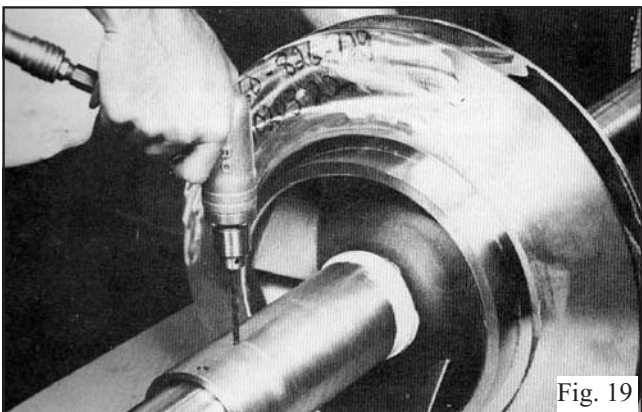

Fig. 19
NOTE: For impellers with replaceable rings, heat each new ring (4-004-0) and slide it onto the impeller. Hold rings against the impeller shoulder until they cool. (See Fig. 19)
6. Place the sleeve O-ring (3-914-9) onto the shaft, into the sleeve counterbore. Verify that Dimension “A” (Fig. 16) is maintained, then using a pin spanner wrench and hammer, securely tighten the shaft sleeve nuts (3-015-9). Then, drill a shallow recess in the shaft through the set screw hole in each of the shaft sleeve nuts. Lock each shaft sleeve nut in position with cup point set screws (3-902-9). (See Fig. 19) A low strength sealant, such as Loctite 271, can be used to retain set screws.